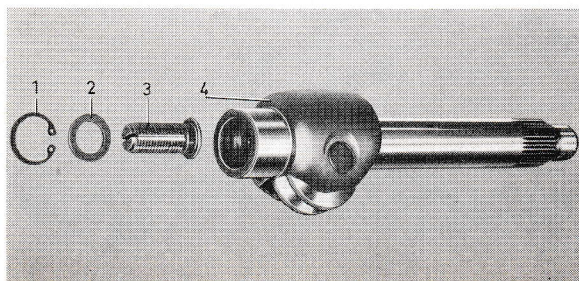

Fig. 29. Pitman arm shaft.
5. Fit the adjusting screw, washer and locking ring on the pitman arm shaft, see Fig. 29. The axial clearance of the adjusting screw should be as small as possible and should not exceed 0.05 mm (0.002"). The clearance is reduced by replacing the washer (2) with a thicker one. The adjusting screw should, however, be easy to turn after fitting.